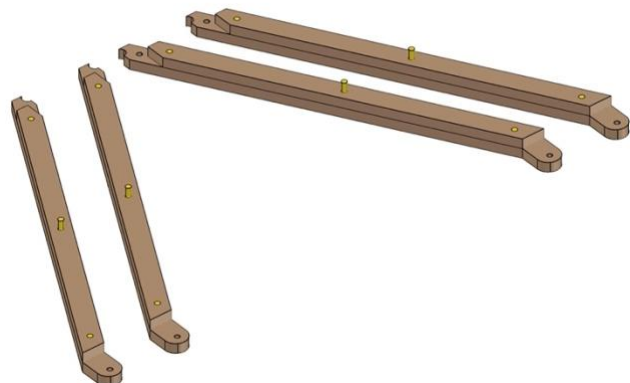

Fig. 40
- Fig. 40 shows the completed process.